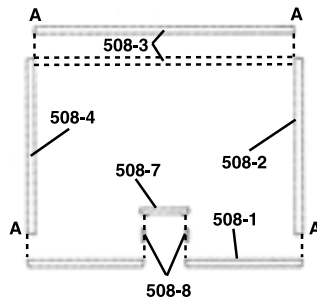
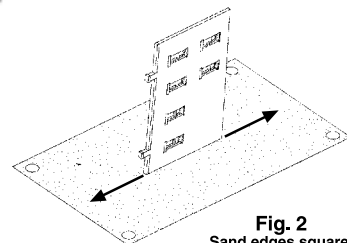

Fig. 1
Fig. 2
1. The edges of all parts are angled (draft angle) so they may be removed from the mold. It is necessary to remove this angle from the front edges of the side walls 508-2 and 508-4 and both edges of the rear wall 508-3 to allow flush fit with adjoining walls. Edges to be squared are marked "A" (Fig. 1). To square the edges, thumbtack a piece of 150 grit sandpaper to a board and push and pull the part back and forth evenly on the sandpaper until they are square (Fig. 2).
2. Cut two entry door side panels 508-8 from white styrene stock (.156" x .02"). Make them the same height as the entry door casting 508-7. Glue side panels to entry door as shown (Fig. 1 and 4). Now glue fronts of side panels to back of entry door on building front.
4. Wall assembly: (Fig. 1 and 4). Glue the front wall 508-1 to either side wall. Make sure the two walls are square to each other. You might want to use the styrene roof as a square. Allow joint to set completely. Now glue the remaining two walls to each other and the first assembly. Try to match the back wall brick courses with the side wall bricks at the glue joints while keeping the bottoms of the walls flush. Several rubber bands will help keep the whole thing together while you adjust the sides to each other.